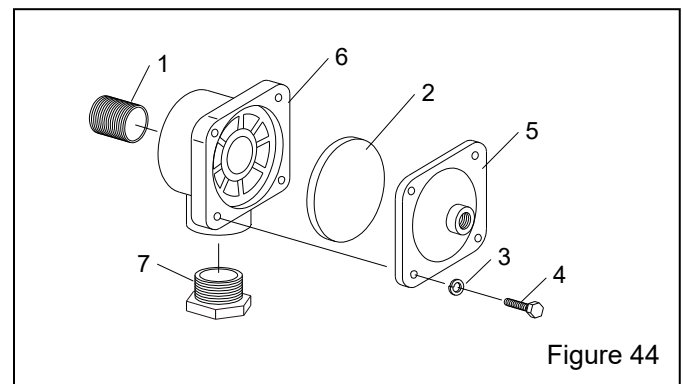

Figure 44
9.6 1" Diaphragm Outlet Valve – Figure 44